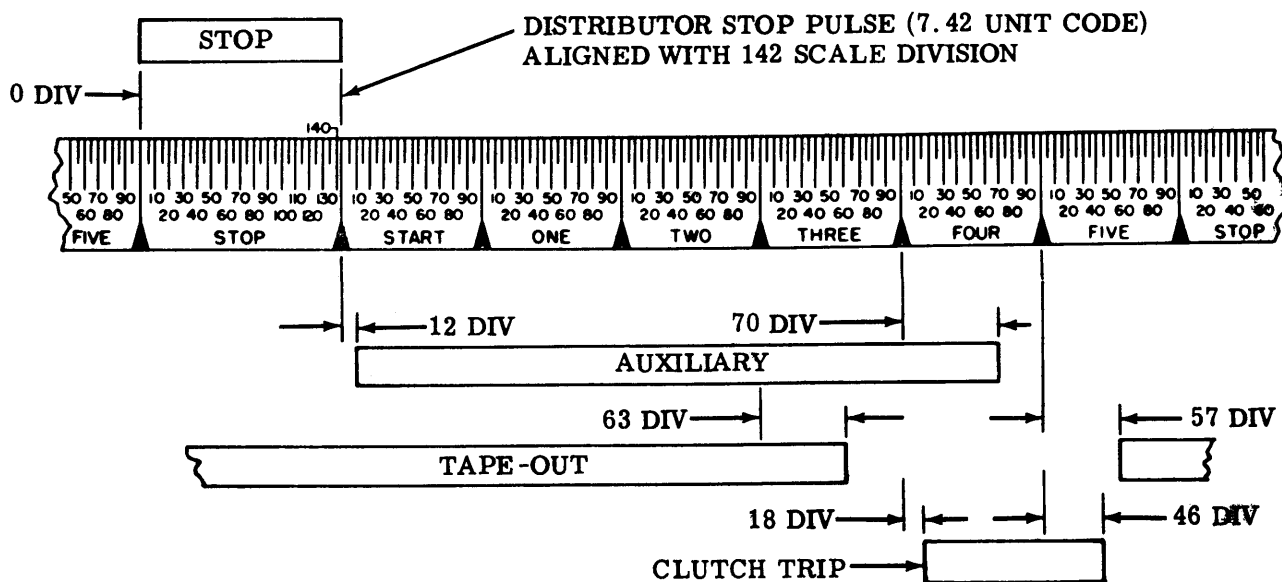

Figure 10 - Transmitter Auxiliary Contacts — 7.42 Unit Code
- (e) Pulse length requirements for 7.42 unit code operation at 368, 460, or 600 opm, and 7.50 unit code at 600 opm (Figure 10).